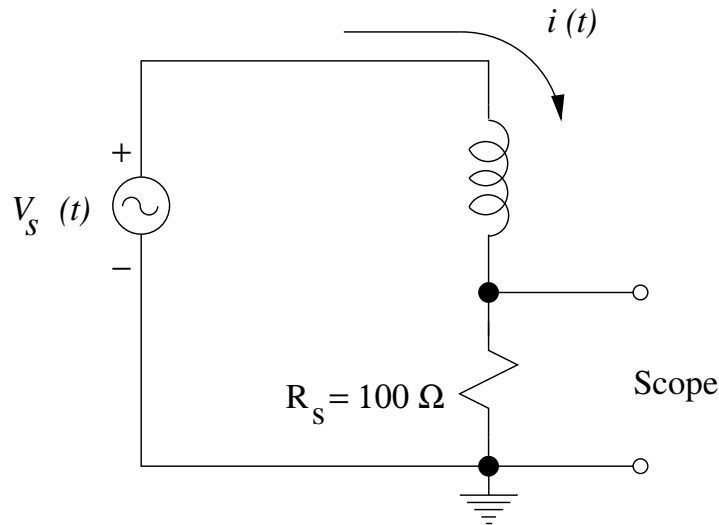

Figure 2: Circuit for supplying and measuring current to the solenoid.
**Inside the solenoid.** Set the signal generator to produce a sine wave with a frequency of 1 kHz and use the oscilloscope to set its amplitude to 10 V peak-to-peak. Connect the solenoid to the signal generator as shown in Figure 2. The  $100\ \Omega$  resistor is used to sense the current. Since it is connected in series with the solenoid, the same current flows through them. Measure the actual value of the resistor. Turn the signal generator on and measure the voltage across the resistor. (Ohm's Law is used to determine the current.)